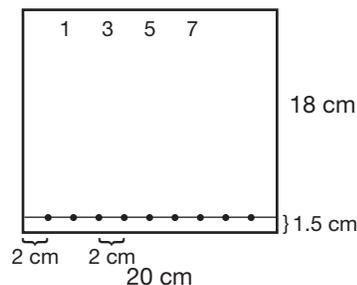

Figure 3.
2. Using a ruler and pencil, draw a faint line 1.5 cm from the bottom across the entire width of the paper (see Figure 3).
3. Using the same ruler and pencil, draw eight small dots. Measure 2.0 cm from one edge for the first dot and then add a dot every 2.0 cm across the line. Label the dots (see Figure 3).